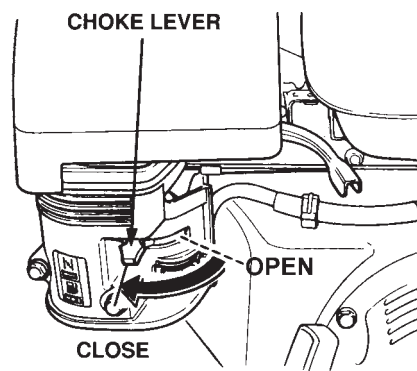

Figure 26. Choke Lever
3. Place the **Choke Lever** (Figure 26) in the "**CLOSED**" position.
6. If the engine has started, slowly return the choke lever (Figure 26) to the **"OPEN"** position. If the engine has not started repeat steps 1 through 5.